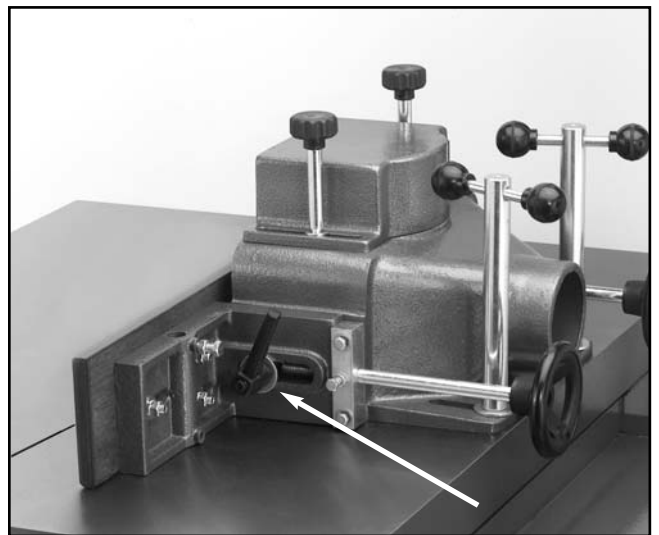

Figure 34. Location of fence locking handles.
1. Loosen the locking handles shown in **Figure 34** that hold the fences in place.